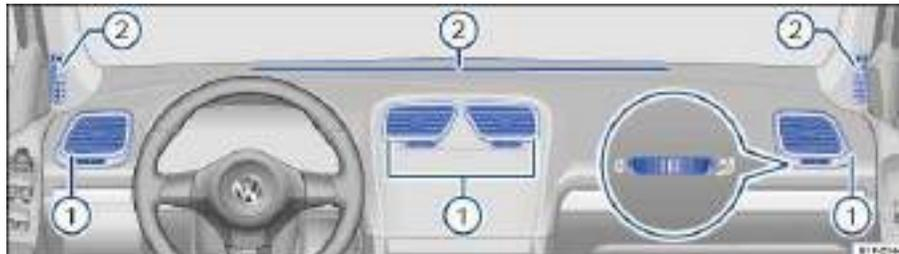

Fig. 146 In the instrument panel: Air vents.
To help ensure sufficient heating, cooling and ventilation in the passenger compartment, never close the air vents completely => fig. 146 (1).